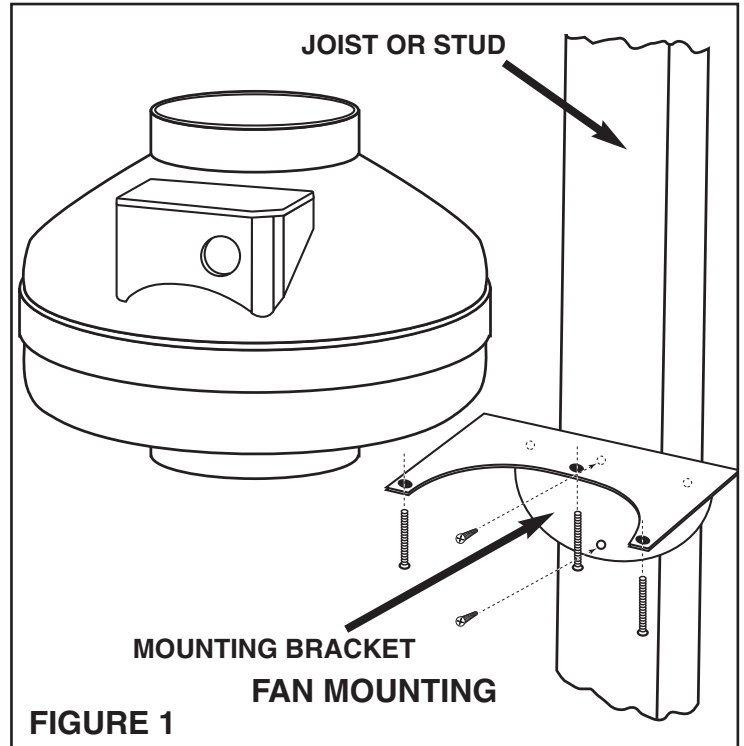

FIGURE 1
2. Attach fan mounting bracket to the support joist using the wood screws provided (**Refer to Figure 1**). For best performance vertical mounting is recommended, however any orientation is acceptable.
3. Attach fan to the mounting bracket using the self threading screws provided (**Refer to Figure 1**). To ease attachment 1/16" pilot holes may be used for the mounting screws.